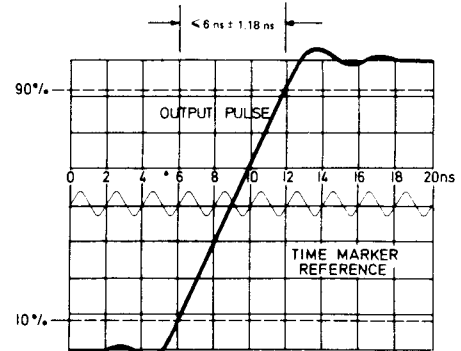

FIGURE 4-15 TRANSITION TIME-FAST MEASUREMENTS
5. Adjust set-up to obtain a full amplitude signal on oscilloscope (figure 4-15).
6. Set pulse generator delay and oscilloscope setting so that the 10% line and 8160A pulse edge are coincident at fourth graticule line as shown in Figure 4-15.
10. Set the 8160A LEE to 30 ns. Set time marker to 10 ns and readjust oscilloscope and pulse generator to obtain a full amplitude signal positioned on the oscilloscope as in Figure 4-15.